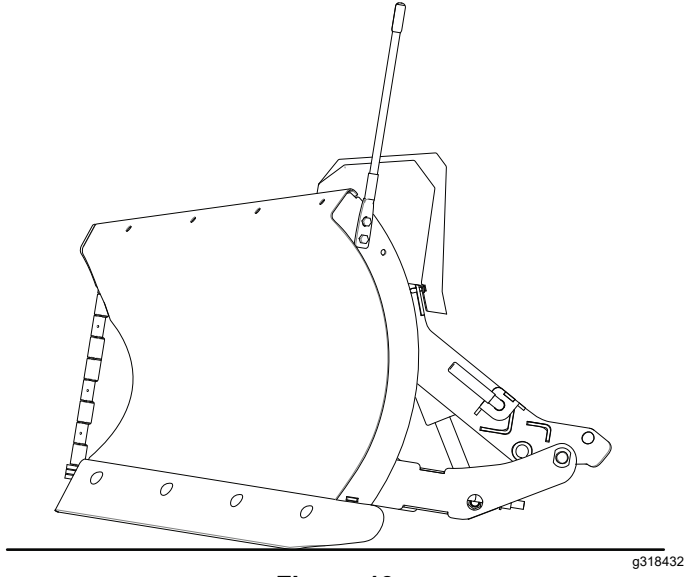
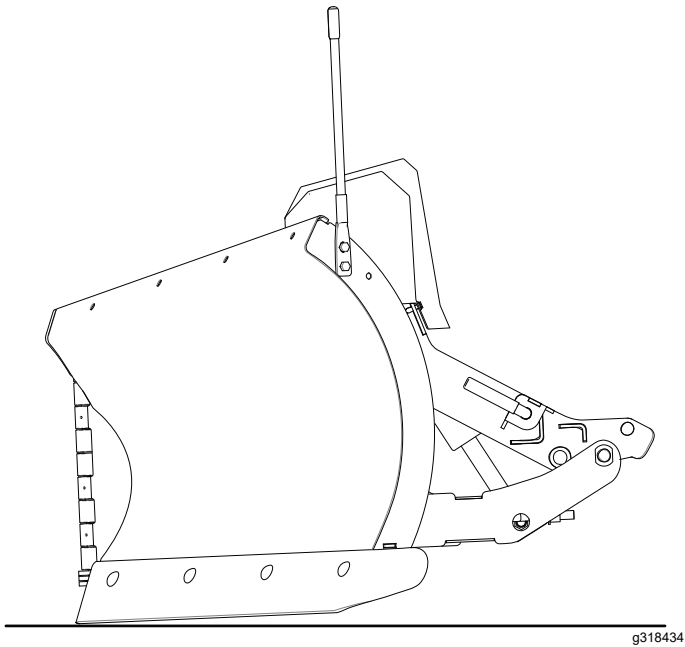

Figure 19
Figure 20
5. Add or remove blade-adjustment shims; refer to Figure 19 and Figure 20.